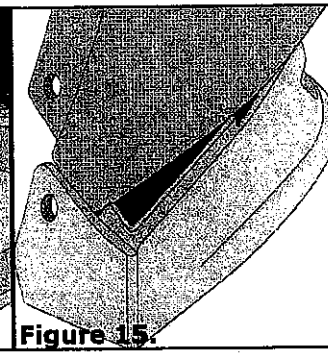

Figure 15.
- Ensure that the three locking tabs (numbered 1, 4 and 5 in Figure 15) have engaged to the gate on the chin.